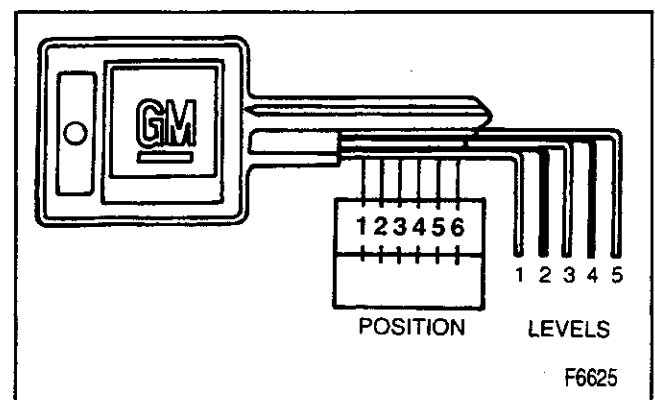

Figure 18—Key Code Diagram
available from records or from the knockout plug, the lock combination (tumbler numbers and position) can be determined by laying the key on the diagram in figure 18.
1. Determine the code from the code list or the key code diagram (figure 18).
- Without the numerical key code or without a code list, refer to figure 18.